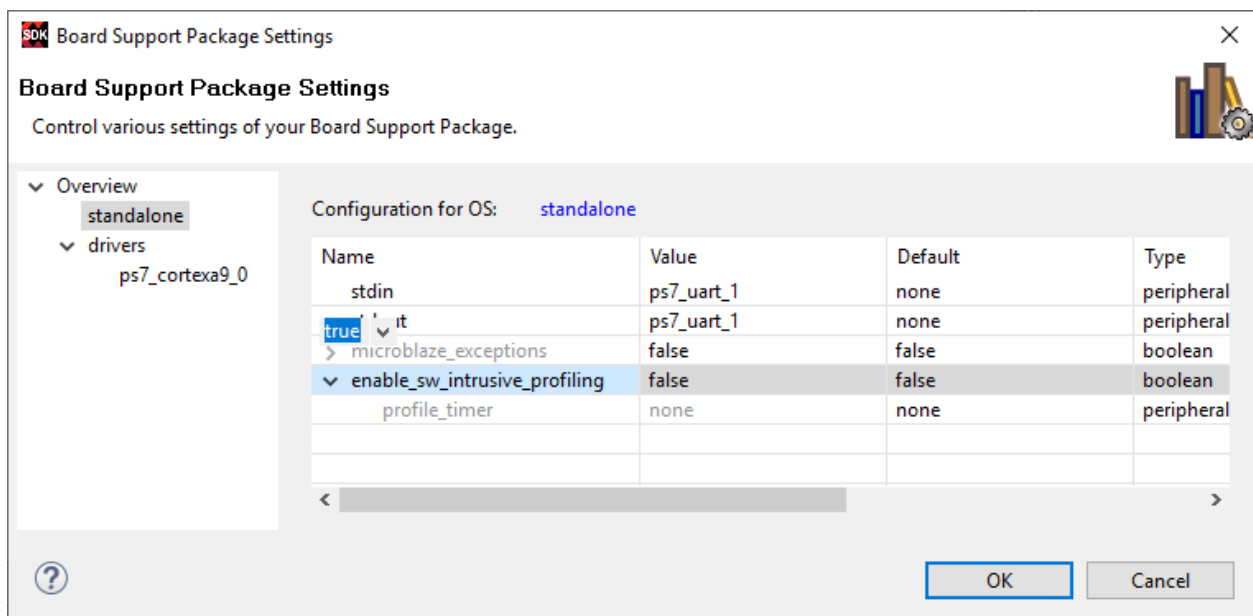

Figure 38: Board Support Package Settings window.
5. The Board Support Package Settings window will appear. Select **Overview** → **standalone**, click on the drop-down arrow over the `enable_sw_intrusive_profiling` *Value* field, and select **true**, as in Figure 38).